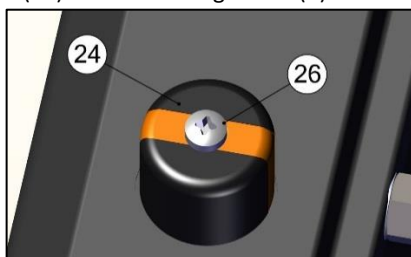

Fig No.10 (a)
- Remove indicator bolt (26) of indicator (24) as shown in Fig No.10 (a) & remove the visual indicator up from Pinion (02) as shown in Fig No.10 (b)